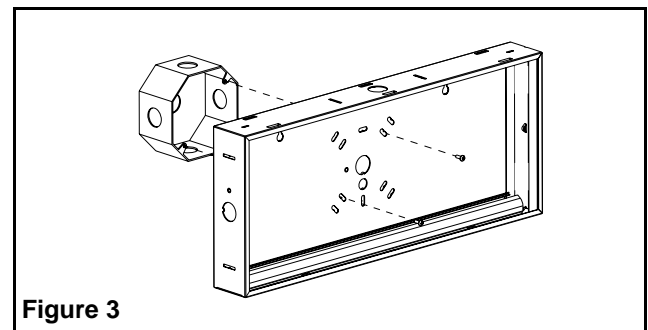

Figure 3
- c. Mount the exit sign securely to the junction box using the junction box screws (See Fig. 3).